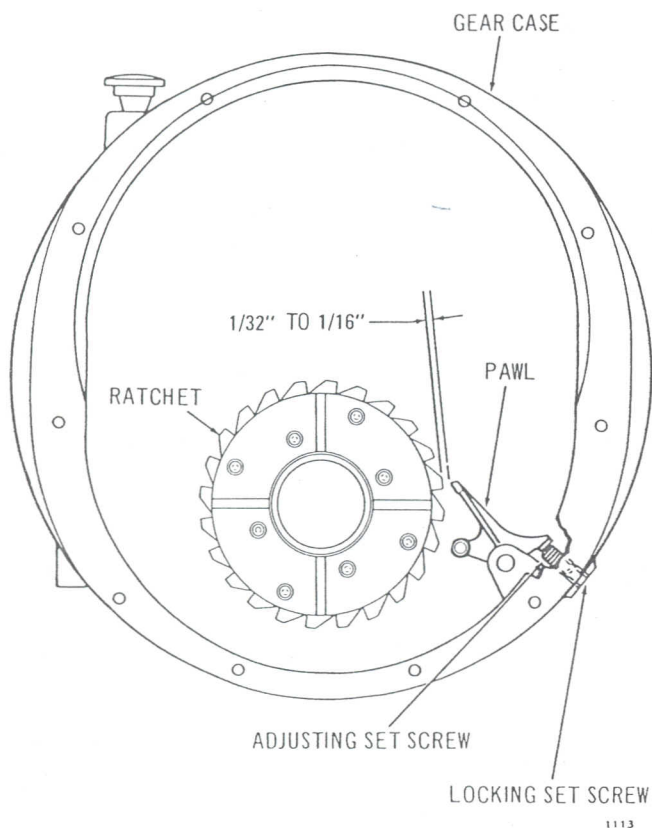

Figure 5-6. Load Brake Pawl Adjustment
**MECHANICAL LOAD BRAKE PAWL ADJUSTMENT.** During raising, the ratchet is rotating counterclockwise. The engaging end of the pawl should be clear of the ratchet teeth by  $1/32$  to  $1/16$  inch (see Figure 5-6).
To change the plugging time, proceed as follows: (See Figure 5-6).